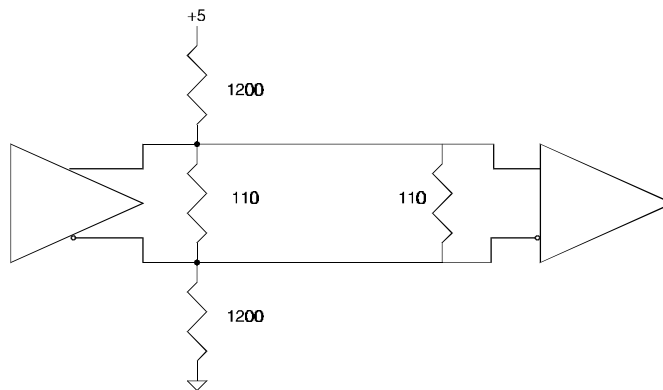

Figure 5-5 RS485 Termination and Pull-up/Pull down
In the two-wire slave mode, no one is driving the transmission line. In this case, it might be advisable to pull the lines to a generally known state with pull-up and pull-down resistors. Fig. 5-5 shows a method of terminating an RS485 transmission line. It is important that the pull-up and pull-down resistors pull the signals to their natural state. There should not be any bus glitches when the enable (E) signals are activated. The **CDQPrima** has internal terminations and pull-ups/pull-downs for all RS485 ports. See Appendix B for details of the rear panel connections.